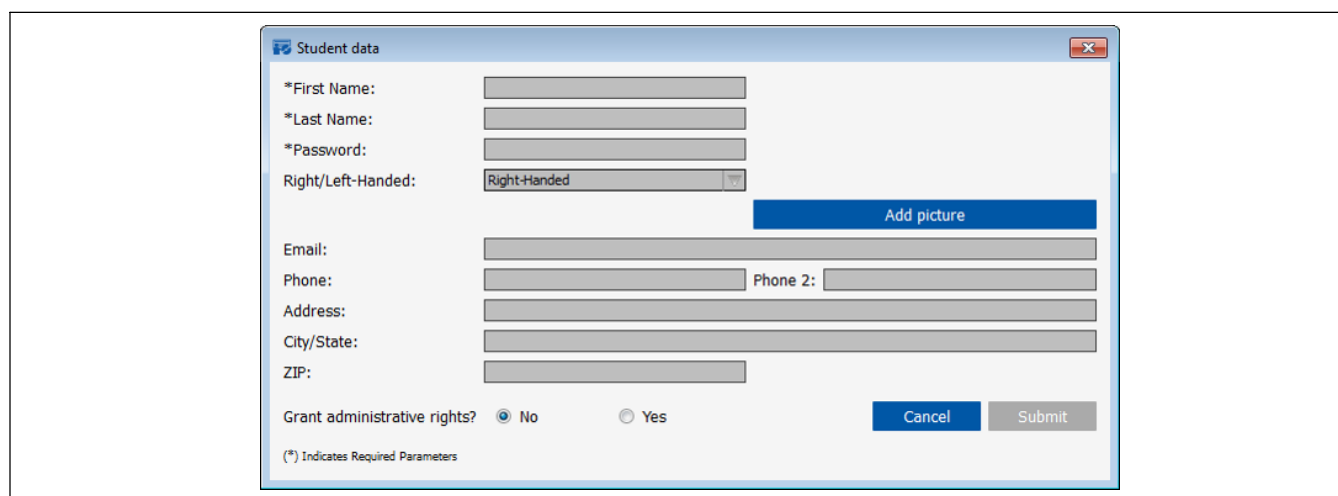

Figure 9-11. Student Data Screen
B. Adding A Student (Figure 9-11)